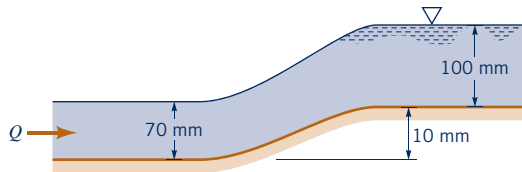

Figure P3.113
3.113 Water flows in a rectangular channel that is 2.0 m wide as shown in Fig. P3.113. The upstream depth is 70 mm. The water surface rises 40 mm as it passes over a portion where the channel bottom rises 10 mm. If viscous effects are negligible, what is the flowrate?